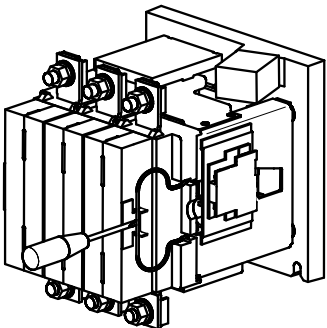

Fig.8
[N14,N16](Fig.8)
- [N14, N16] (Fig.8)
[N14,N16形](Fig.8)